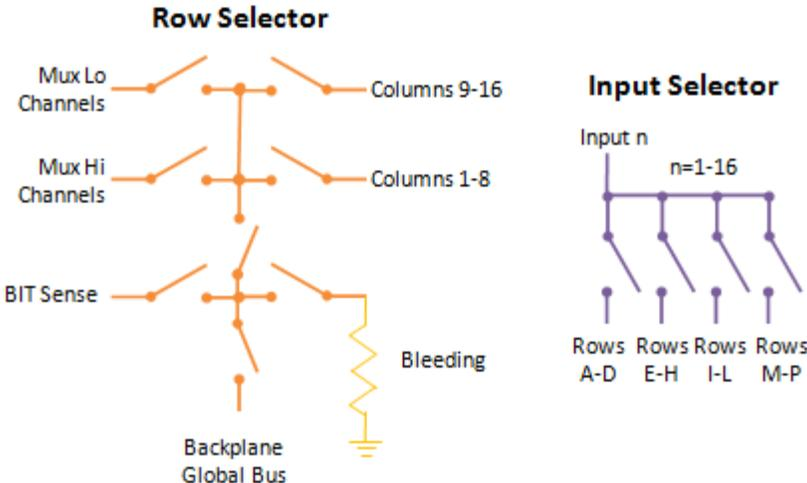

Figure 2-11: Schematic Diagram for Selectors
- The row selector switches a multiplexer group to one of two sets of columns: 1-8 or 9-16. Figure 2-11 includes a logic schematic of a row selector. The row selector can also connect the row to the corresponding global bus line in the backplane.